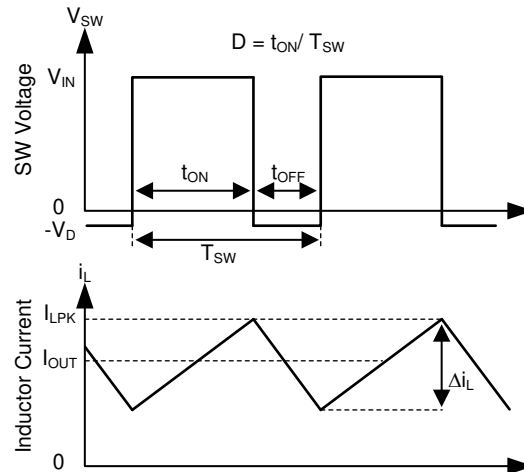

Figure 10-1. SW Node and Inductor Current Waveforms in Continuous Conduction Mode (CCM)
The following operating description of the TPS2583xA-Q1 will refer to the Functional Block Diagram and to the waveforms in Figure 10-1. TPS2583xA-Q1 is a step-down synchronous buck regulator with integrated high-side (HS) and low-side (LS) switches (synchronous rectifier). The TPS2583xA-Q1 supplies a regulated output voltage by turning on the HS and LS NMOS switches with controlled duty cycle. During high-side switch ON time, the SW pin voltage swings up to approximately V_{IN} , and the inductor current i_L increase with linear slope $(V_{IN} - V_{OUT}) / L$. When the HS switch is turned off by the control logic, the LS switch is turned on after an anti-shoot-through dead time. Inductor current discharges through the LS switch with a slope of $-V_{OUT} / L$. The control parameter of a buck converter is defined as Duty Cycle $D = t_{ON} / T_{SW}$, where t_{ON} is the high-side switch ON time and T_{SW} is the switching period. The regulator control loop maintains a constant output voltage by adjusting the duty cycle D . In an ideal buck converter, where losses are ignored, D is proportional to the output voltage and inversely proportional to the input voltage: $D = V_{OUT} / V_{IN}$.
The TPS2583xA-Q1 is internally compensated as shown in Figure 10-1. The internal compensation is designed such that the loop response is stable over the specified operating frequency and output voltage range. The TPS2583xA-Q1 is optimized for transient response over the range $300 \text{ kHz} \leq f_{sw} \leq 2300 \text{ kHz}$.